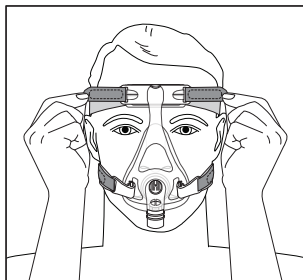

Figure 4
3. **Headgear** - Pull back the tabs to evenly adjust the top and bottom straps (Figure 4).